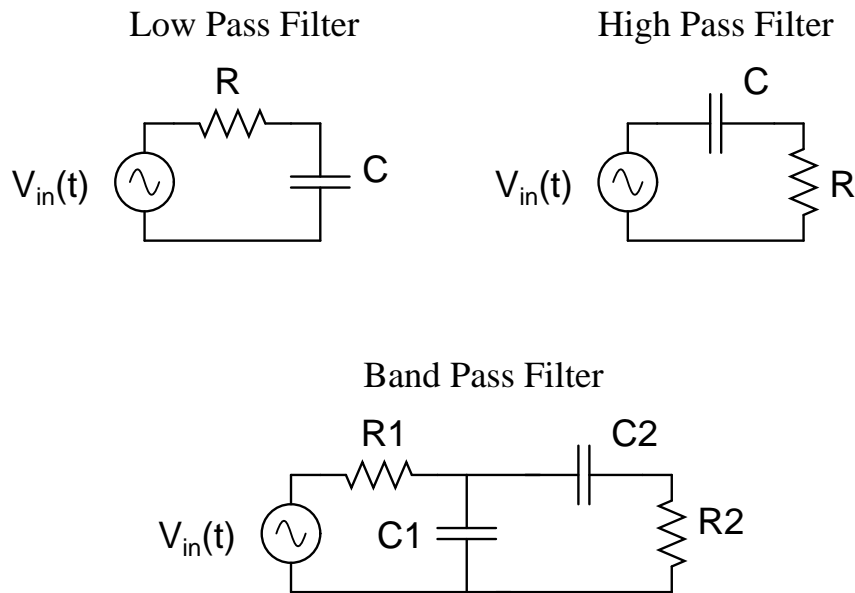

Figure 7: Basic passive RC filters. Output of LPF measured across C . Output of HPF measured across R . Output of BPF measured across R_2 .
1. **RC filter flavors** Figure 7 shows 3 common passive RC filters: 1-stage low pass filter (LPF); 1-stage high pass filter (HPF); and band pass filter (BPF) constructed from cascaded LPF + HPF. In terms of filter design, two defining characteristics of any filter are 1) cut off frequency; 2) slope in attenuation region (how “hard” the filter cuts off).